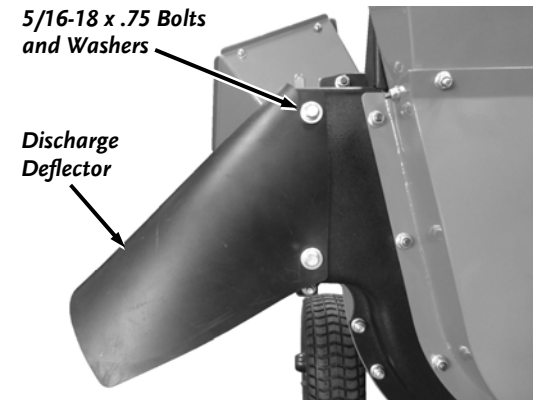

Figure 13
1. Secure one side of the Discharge Deflector at the two mounting locations with 5/16-18 X .75 Bolts and .344" x .88" x .12" Washers using a 1/2" Wrench (**Figure 13**).